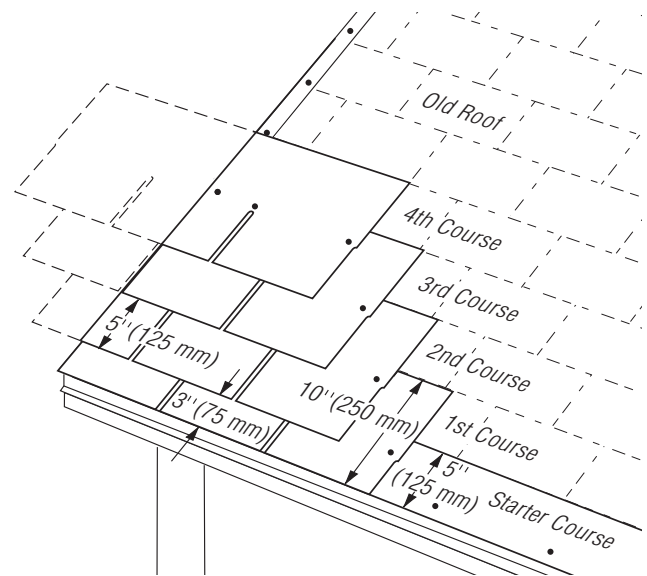

Figure 13-14: Nested Reroof.
2. Cut 6" off the length of the first starter shingle and install the resulting 30" piece at the lower left corner of the roof, over the first course of old shingles. If you are using drip edge, let the starter course extend out over the edge of the rakes and eaves by 1/2". If no drip edge is used, let the starter course extend over the rakes and eaves by 3/4" (Figure 13-14).
1. The first course is made of 10" by 36" shingle strips made by cutting 2" off of the bottom of the tabs of regular shingles (Figure 13-14).
1. Cut 6" off the left end of a full shingle and align the top edge of this 12" by 30" shingle with the bottom edge of the old shingle in the old fourth course. Make the left edge align with the first-course left edge (Figure 13-14).
1. Begin the third course by cutting a 12" piece off the left end of a full shingle and applying this 24" piece above the new second-course shingle (Figure 13-14). Align the top edge of the new shingle with the bottom edge of old shingles in the course above it (the old roof's fifth course).